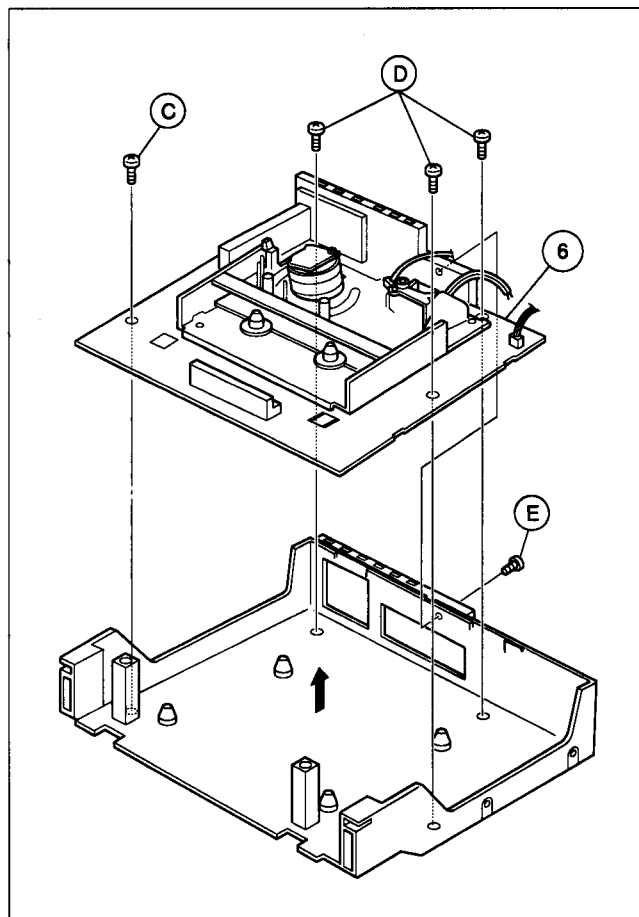

Fig. 1-4-2
- (4) Take out 3 screws (D), 1 screw (C), and 1 screw (E).
- (5) Remove the Main board and Main deck assemblies together while holding the edge of the Main board. At this stage be careful of the power cord and prongs of the jacks on the back side (See Fig. 1-4-2).